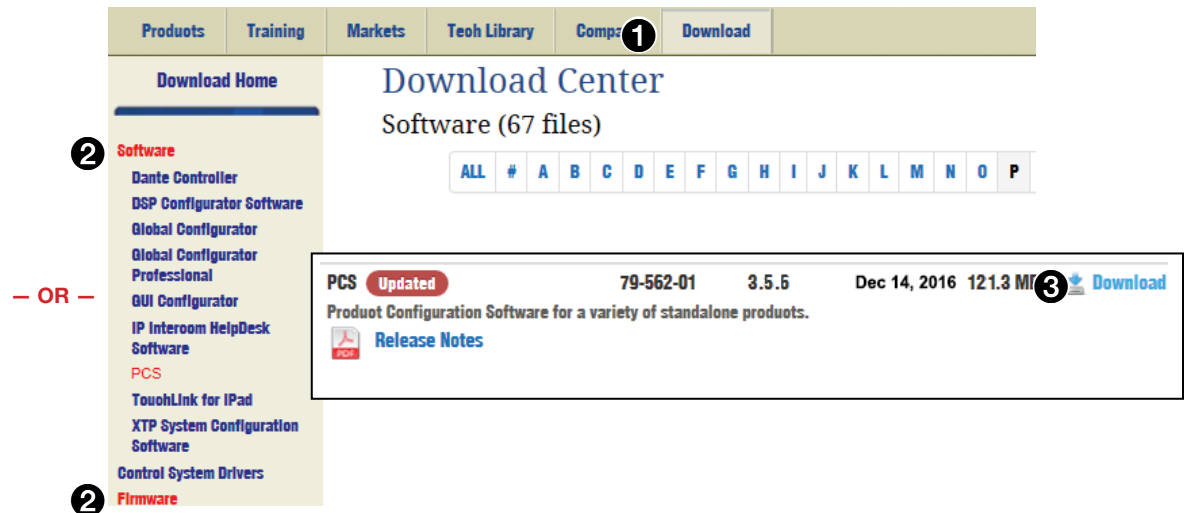

Figure 10. Downloading a Software or Firmware Package
1. Visit the website www.extron.com and click the **Download** tab (see figure 10, ❶).
- Many popular software packages have direct links on the Download page that you can click instead. Figure 10 shows the **PCS** link.
3. Click **Download** for the desired software or firmware to download (❸).